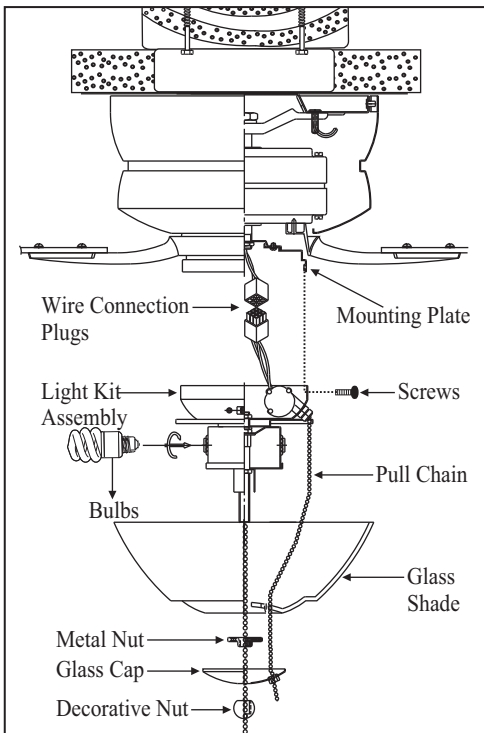

Figure 13
1. While holding the light kit assembly under your fan, snap the wire connection plugs together (Fig. 13).
2. Carefully push all wires back into the switch housing, then install the light kit assembly onto the mounting plate with 3 screws provided. Be sure to tighten all screws. (Fig. 13)
4. Remove the metal nut, glass cap and decorative nut from the light kit. Place glass shade over the light kit stem, secure with the metal nut (rubber side on the top), glass cap and decorative nut. Do not overtighten (Fig. 13).
5. Insert the 2 pull chain through the eyelet in the shade and cap. Secure the glass cap and decorative nut provided (Fig. 13).